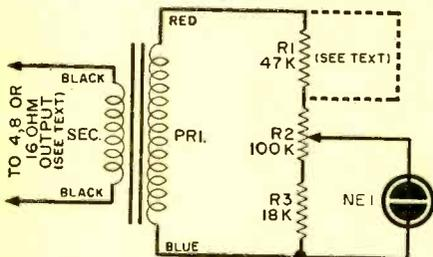

Fig. 1. Pictorial and schematic of the "safety light" illustrate its very simple design.
**Circuit Design.** The circuit of the warning indicator is shown in Fig 1. Transformer *T1* is used as a voltage multiplier. What would normally be considered the secondary of this transformer (the 8-ohm winding) is connected to the terminals of
**Construction Tips.** Follow the diagram of Fig. 1 *exactly*. Connections to R2 must be made as shown, because R2 is not a linear control. In other words, ½-turn of the shaft does not change the resistance by one-half. This was done deliberately, so as to give a more even, readable spread in the calibration of the various wattage points. If a linear-taper control had been used, the higher wattage points, such as 30, 40 and 50 watts, would have been "bunched together" at one end of the control, reducing the accuracy of settings and the usefulness of the instrument.
One of the oscilloscope's neatest tricks is the ability of the indicator beam to move in any direction. This allows it to read a varying voltage instantaneously and draw a graph of the result (see Fig. 1).